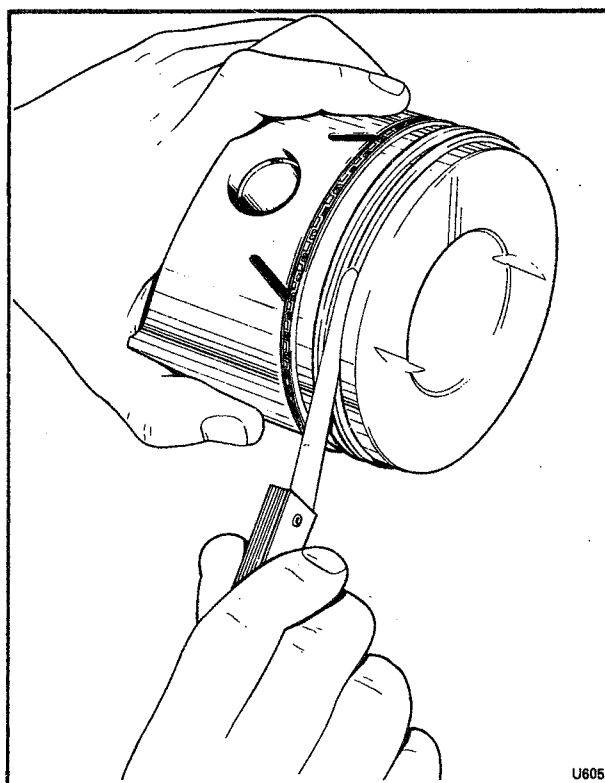

Fig. E19 Checking the piston ring clearance
4. Check that the clearance of the piston rings in their respective grooves is as given in Section E3, Dimensional data (see Fig. E19).